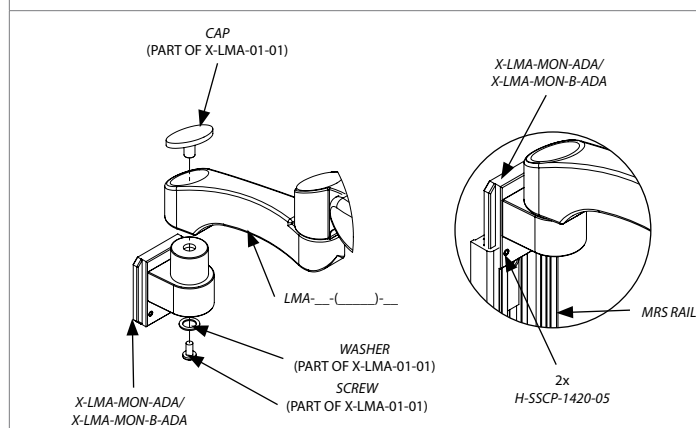

Figure 1
1. Assemble LMA to X-LMA-(MON/MON-B)-ADA by placing LMA onto X-LMA-(MON/MON-B)-ADA and securing with the SCREW through WASHER, X-LMA-(MON/MON-B)-ADA, LMA, and into CAP, using #3 Phillips Head screwdriver (as shown in **Figure 1** on the left below).
2. Slide X-LMA-(MON/MON-B)-ADA into the MRS RAIL (as shown in **Figure 1** on the right below).
3. Once the arm is positioned at the desired height, tighten 2x of the parts labeled H-SSCP-1420-05 in **Figure 1** below with a 1/8" (3.2 mm) Hex key.